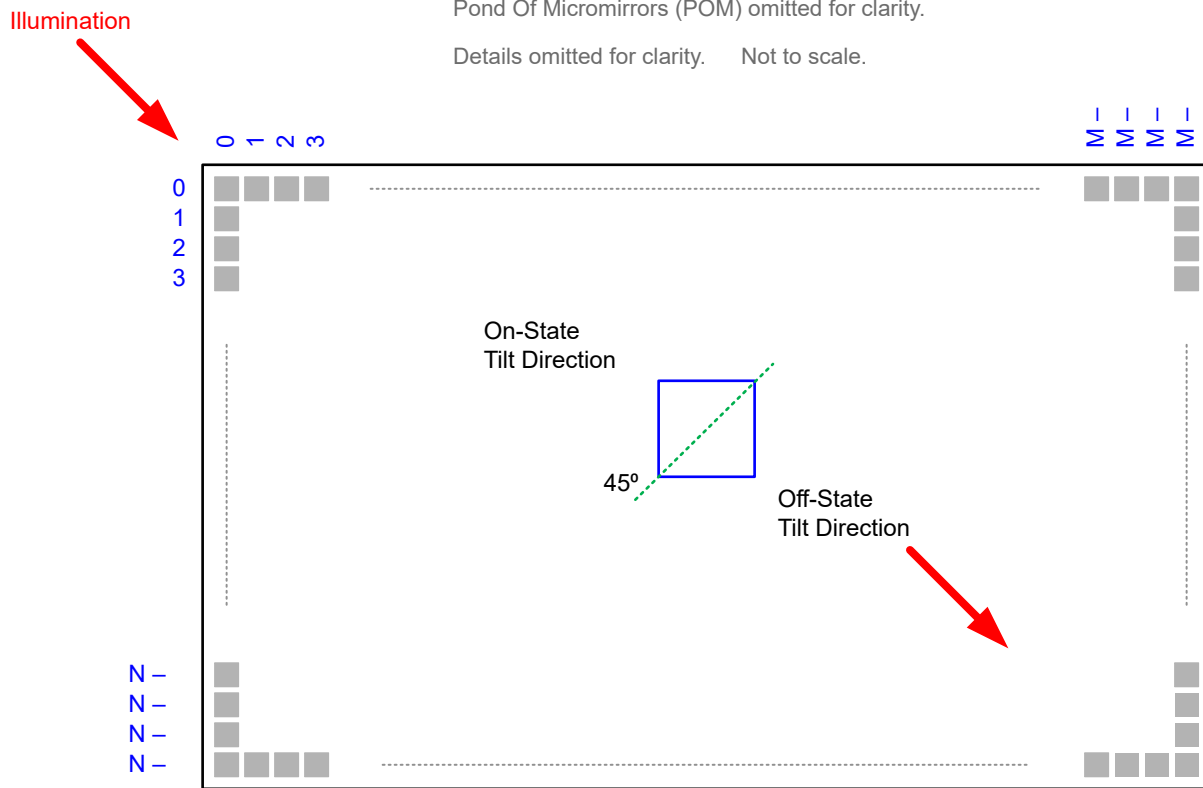

Figure 6-10. Micromirror Landed Orientation and Tilt
- (1) Measured relative to the plane formed by the overall micromirror array.
- (2) Additional variation exists between the micromirror array and the package datums.
- (3) Represents the variation that can occur between any two individual micromirrors, located on the same device or located on different devices.
- (4) For some applications, it is critical to account for the micromirror tilt angle variation in the overall system optical design. With some system optical designs, the micromirror tilt angle variation within a device may result in perceivable non-uniformities in the light field reflected from the micromirror array. With some system optical designs, the micromirror tilt angle variation between devices may result in colorimetry variations, system efficiency variations or system contrast variations.
- (5) Refer to Figure 6-10.
- (6) The time required for a micromirror to nominally transition from one landed state to the opposite landed state.
- (7) The minimum time between successive transitions of a micromirror.
- (8) Efficiency numbers assume 24-degree illumination angle, F/2.4 illumination and collection cones, uniform source spectrum, and uniform pupil illumination. Efficiency numbers assume 100% electronic micromirror duty cycle and do not include optical overfill loss. The efficiency is measured photopically. Note that this number is specified under conditions described above and deviations from the specified conditions could result in decreased efficiency.
- (9) Bright pixel definition: a single pixel or mirror that is stuck in the ON position and is visibly brighter than the surrounding pixels
- (10) Dark pixel definition: a single pixel or mirror that is stuck in the OFF position and is visibly darker than the surrounding pixels
- (11) POM definition: rectangular border of off-state mirrors surrounding the active area
- (12) Gray 10 screen definition: a full screen with RGB values set to R = 10/255, G = 10/255, B = 10/255
- (13) White screen definition: a full screen with RGB values set to R=255/255, G = 255/255, B = 255/255
- (14) Adjacent pixel definition: Two or more stuck pixels sharing a common border or common point, also referred to as a cluster.
- (15) Unstable pixel definition: A single pixel or mirror that does not operate in sequence with parameters loaded into memory. The unstable pixel appears to be flickering asynchronously with the image.